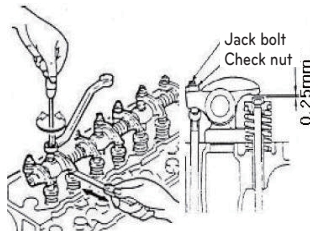

Figure 3. Valve clearance adjustment
- Check if the push rod is easily moved by hand, and unfasten the check nut. Loosen the jack bolt a little bit using a screwdriver and insert the THICKNESS GAUGE. Turn the jack bolt to adjust the valve clearance. After completing the adjustment, fasten the jack bolt and the check nut. (Figure 3)